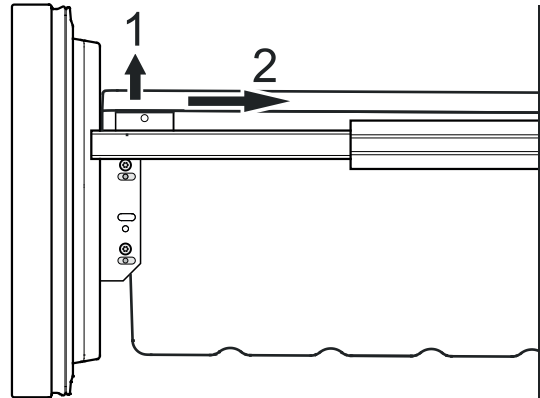
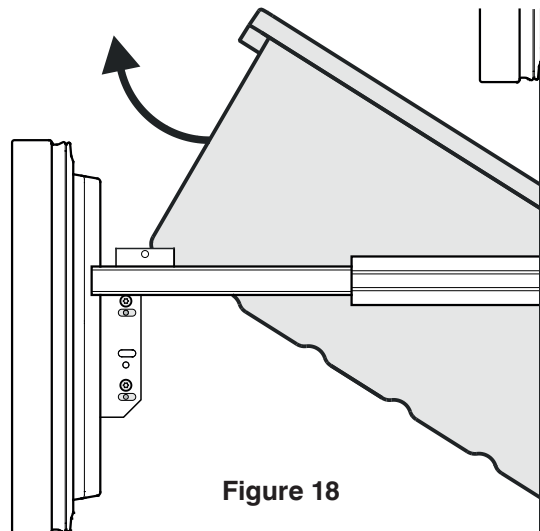

Figure 17
Figure 18
- Unlatch the container on the left and right corners by pulling upwards (1) - **Figure 17**.
- Slide the container backwards (2) - **Figure 17**.
- Tilt the container at an angle and remove - **Figure 18**.
- Remove the freezer drawer containers as shown in **Figure 17** and **Figure 18**.